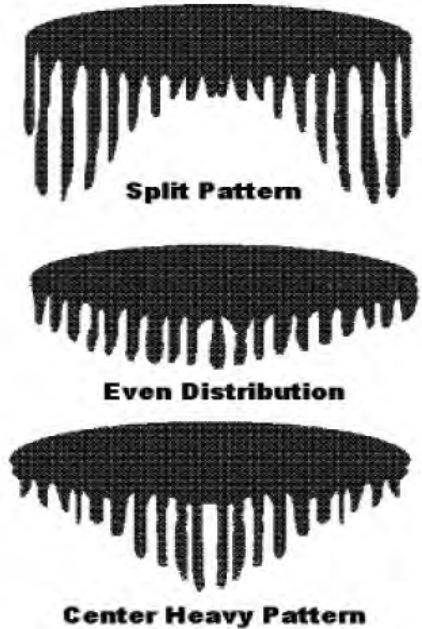

Figure 13: Horizontal Test Pattern
1. Spray a horizontal test pattern (air cap horns in a vertical position). Hold the trigger open until the paint begins to run. There should be even distribution of the paint across the full width of the pattern. (see Figure 13). The fan control knob is normally adjusted fully counter-clockwise. If the distribution is not even but is symmetrical a different fluid tip may help. If the pattern is not symmetrical, there is a problem with either the air cap or the fluid tip/needle that must be corrected.